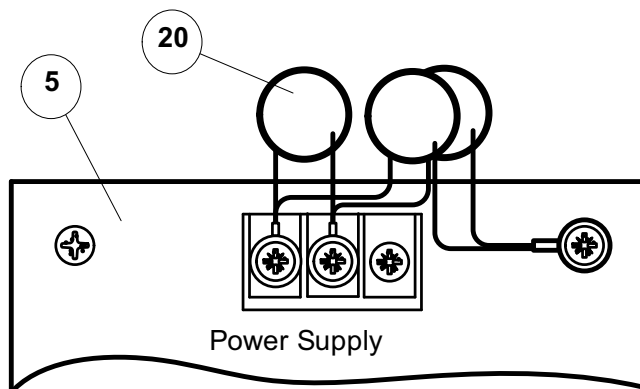

Fig. 4 The Varistors Block connection for CDS-120 (120VAC powering only)
The MP-120, which is intended for powering by 120 VAC voltage, include the varistors block. This one (pos. 20) is connected to the Power Supply (pos.5) in accordance with Fig.4.